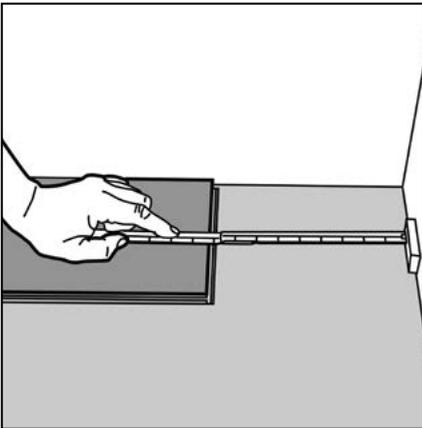
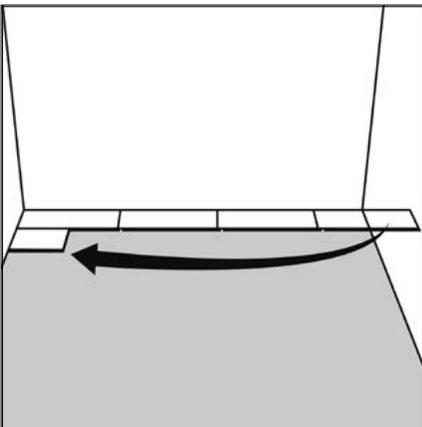

Figure 12 Last plank, first row
Figure 13 First Plank second row
- ▶ Measure the length of this plank/tile to fit (fig. 12), cut to correct length and turn back so the overhanging male profile on the short edge is now facing the previous plank/tile. Install as before. The minimum length of this plank/tile should be 350mm. Note - The remaining part of this plank/tile will start the next row (fig. 13).
- ▶ Start this new row with the leftover piece from the last row (min length 350mm – fig. 13). Insert the plank/tile at an angle against the plank/tile in the previous row (fig. 14). Press forward and fold down at the same time.